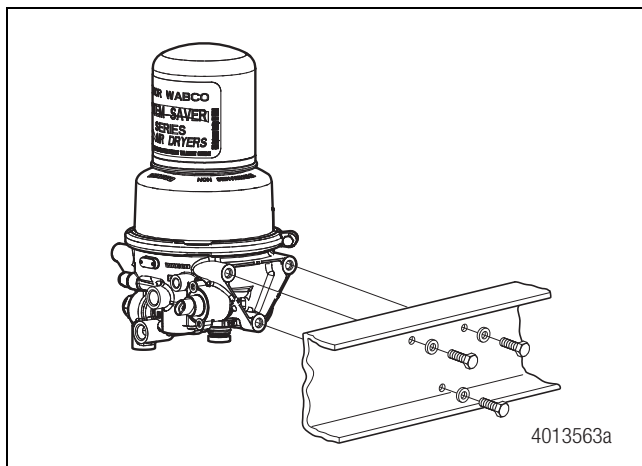

Figure 2.10
3. Remove the three mounting bolts. Remove the air dryer from its mounting location. Figure 2.10.